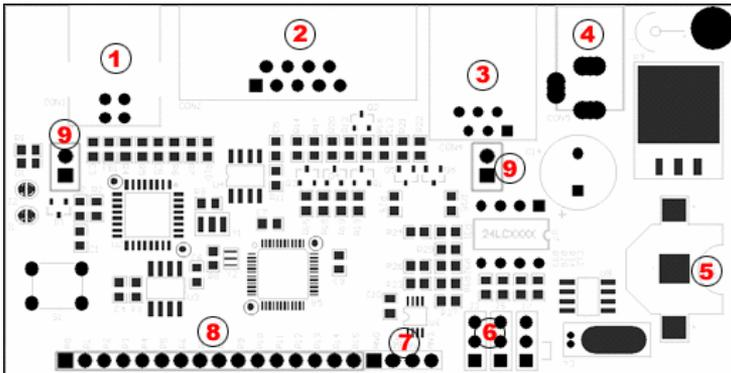

Figure 1—Board Layout
Board Layout (Refer to figure 1)
2) Insert the CR1216 cell into it’s holder (#5 In figure 1).
3) Mount the Stamp Stack 2P to the breadboard such that the power output pins (#’ 9 in figure 1) sit in the power rail of the breadboard
4) Apply power to the Power Input Connector (#4 in figure 1).